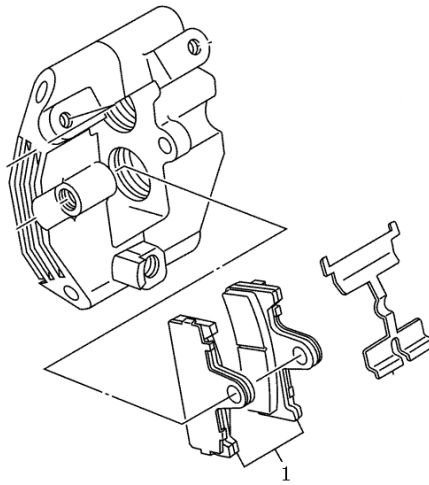

Figure 4-2-8
5. Inspect the Brake Shoe for wear condition. Brake shoe must be replaced when worn out. (Figure 4-2-8)